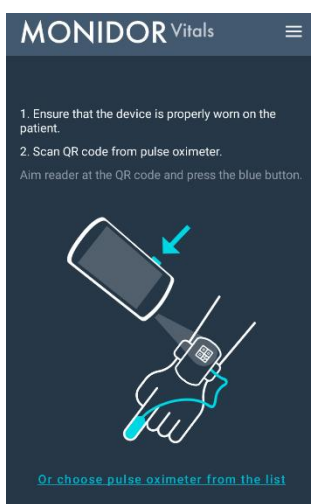
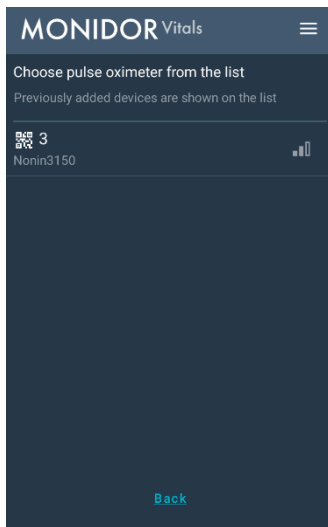

Figure 2: Connecting the wireless patient monitor to the pulse oximeter by scanning the pulse oximeter QR code.
Figure 3: Connecting the wireless patient monitor to the pulse oximeter by selecting from the list.
2. Connect the pulse oximeter to the wireless patient monitor by scanning the pulse oximeter QR code (Figure 2) or by selecting from the list (Figure 3). The QR code is scanned using the barcode reader function of the patient monitor by pressing the button on the side of the device. For more information on the barcode reader function, refer to the user manual of the mobile device used as a wireless patient monitor.